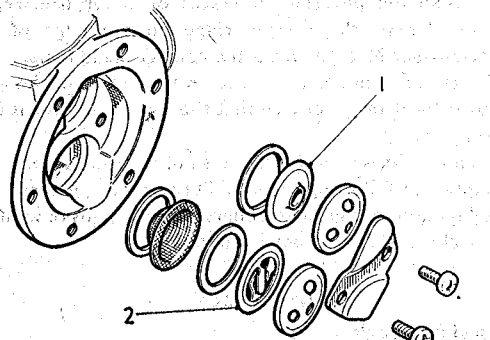

Fig. 9. The valve assembly, AUF 500 range
13. In the AUF 500 range of pumps the valve assemblies are retained internally in the body by a clamp plate secured with self-tapping screws (see Fig. 9). The inlet valve recess in the body is deeper than the outlet valve recess to allow for the filter and extra washer.